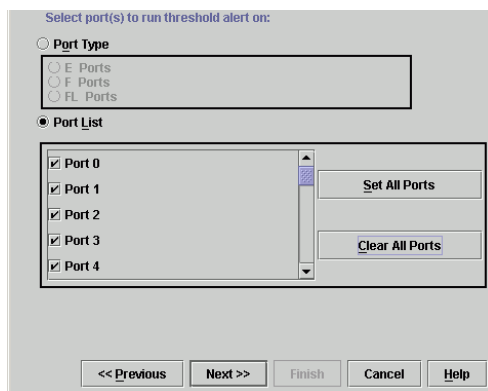

Figure 2-56 New Threshold Alerts Dialog Box (Screen 3)
9. Click *Next*. The *New Threshold Alert* dialog box (screen 3) displays (Figure 2-56).